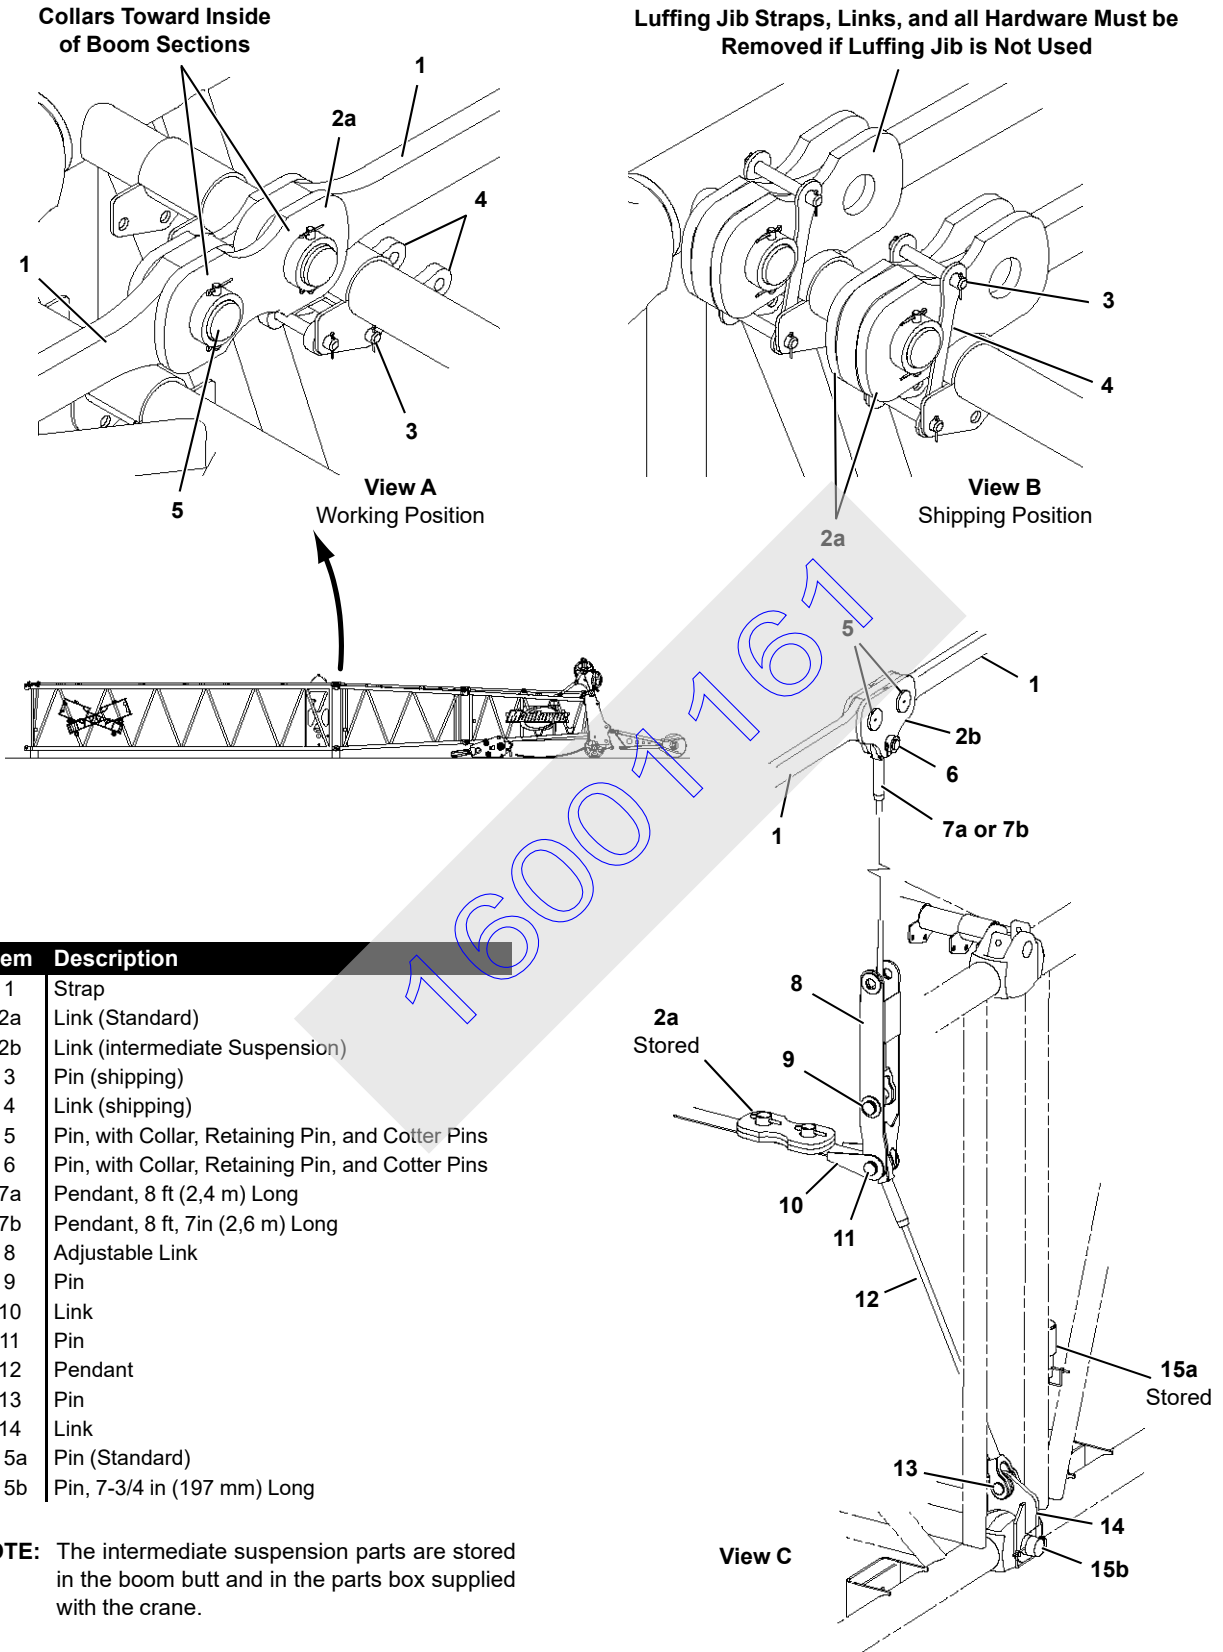

FIGURE 4-30
- b. Support wire rope guide with hoist and remove pin (3) from shipping position.
- c. Raise wire rope guide to operating position and install pin (3).
4. Lift next insert into position and engage fixed horizontal pins (4, View D) in insert with hooked connectors (5) in adjacent insert.
NOTE: If intermediate suspension is required, standard bottom connecting pins (6) are replaced with longer connecting pins and links (see Figure 4-30 and Boom Assembly Drawing).
7. Repeat steps 4 – 6 for each remaining insert (12) and for boom top (14).
See Figure 4-30 for the following procedure.
See Figure 4-30 and Figure 4-31 for the following procedure.